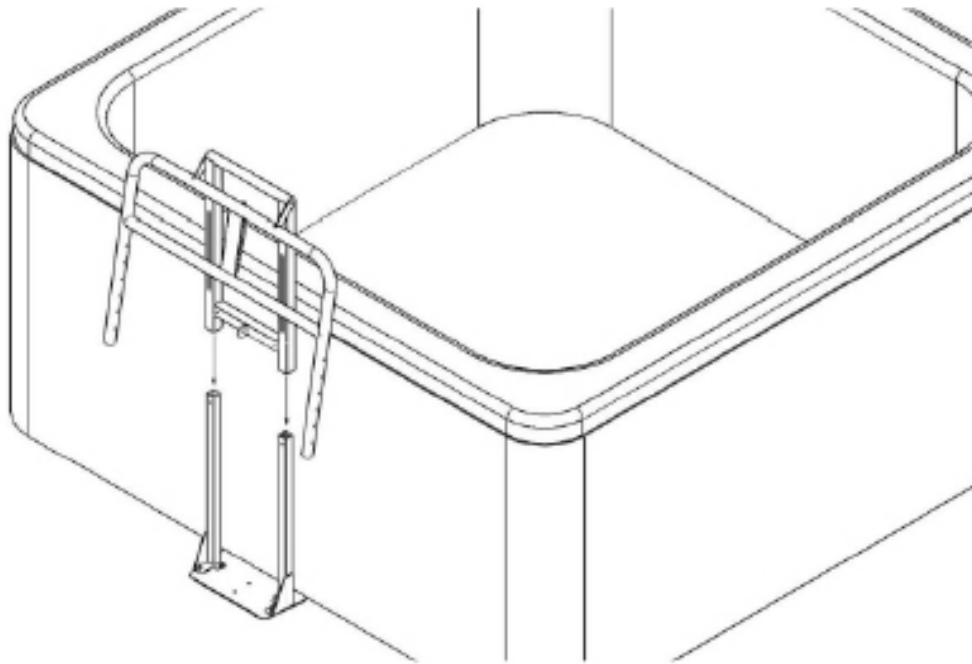

Figure 4
- 4 Slide the legs of the ccAA Main Unit/ccEE Pivot Arm assembly over the ccGG Support Legs. See Fig 4.